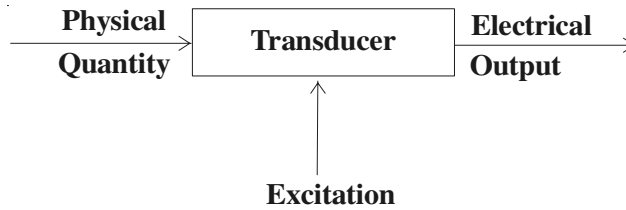

Fig. 30.9: Function of a typical transducer
- provide a proportional electrical output signal as shown is Fig. 30.9. Let us now